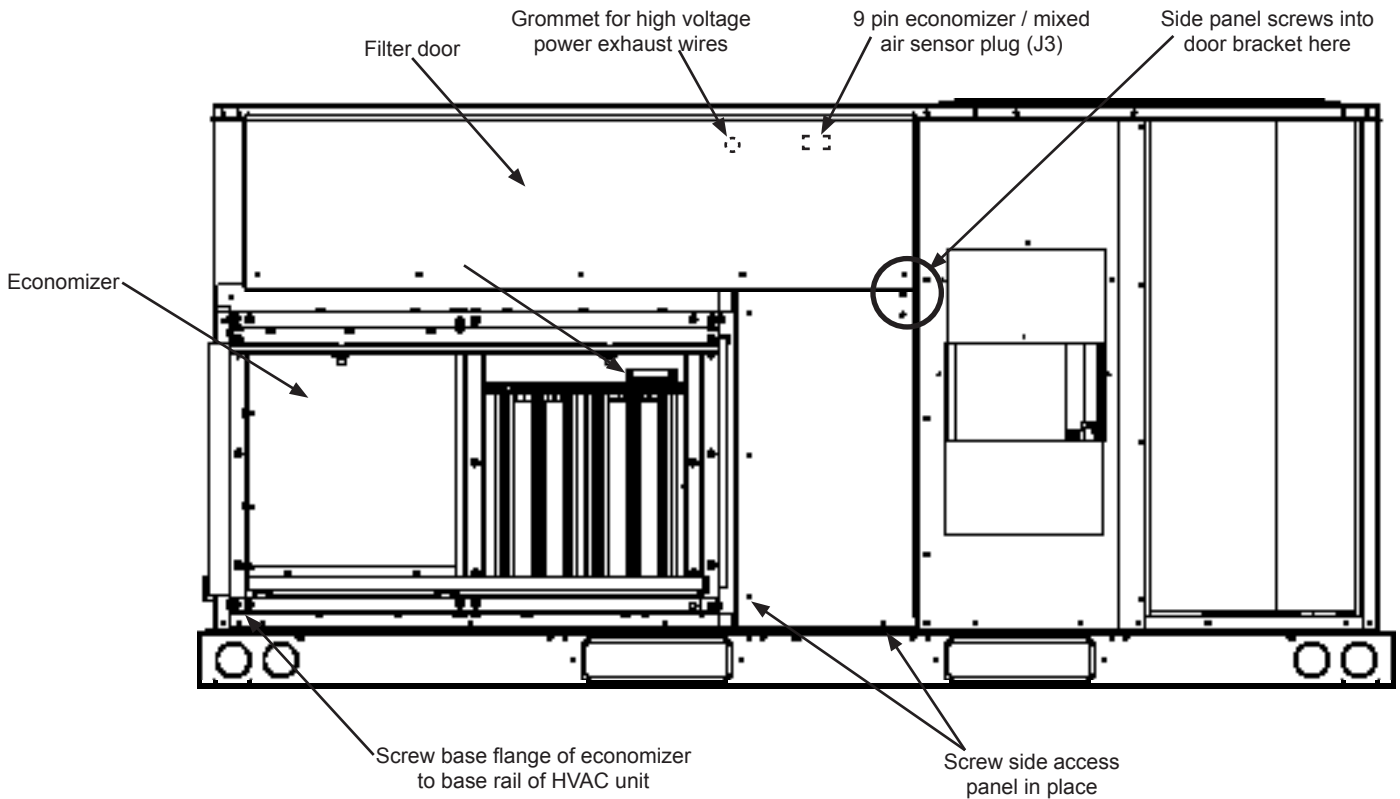

Figure 5
1. Locate 9-pin J3 economizer jack harness seated in upper right panel inside filter compartment. Disconnect P3 jumper plug from J3 and retain jumper plug for future troubleshooting. Connect 9-pin P4 economizer plug from economizer control module harness to J3 economizer jack. Secure P4 harness with push in wire tie from parts bag and inset it into the 1/4" hole on top of filter rack. Refer to Figs. 5 and 7.